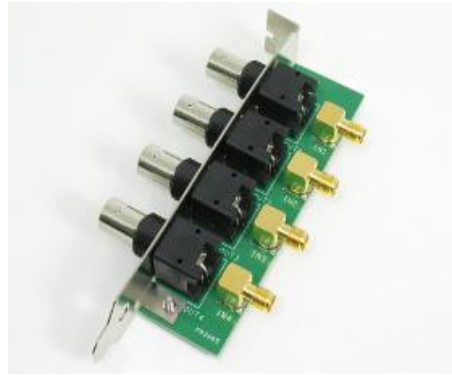
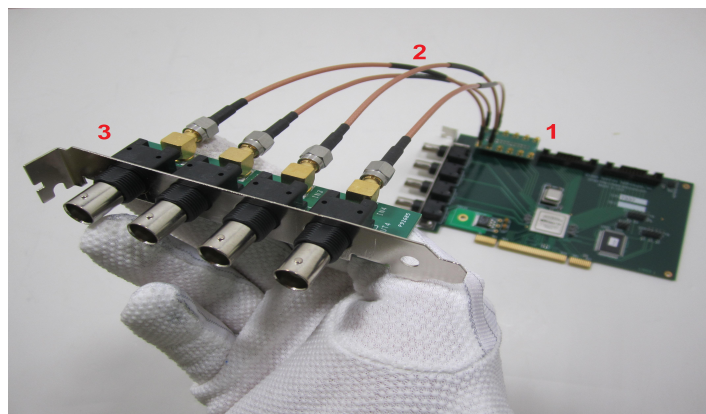

Figure 17: SMA-BNC Adapter Board is available to access additional flag bits.
Figure 18: IDC to BNC Adapter Set-Up on an SP4B Board
6. SpinCore MMCX Adapter Board Figure 17 – This adapter board allows easy access to the individual bits of the PulseBlaster. This adapter board can be part of a package that includes 12 MMCX to BNC cables and three SMA to BNC adapters. This package can be changed to include any number of cables and any number of adapter boards. For ordering information contact SpinCore at <http://www.spincore.com/contact.shtml>. The SMA-BNC Adapter Board, shown in figure 18, provides easy access to four additional output signals from the back panel of your computer. SMA-SMA cables are available from SpinCore